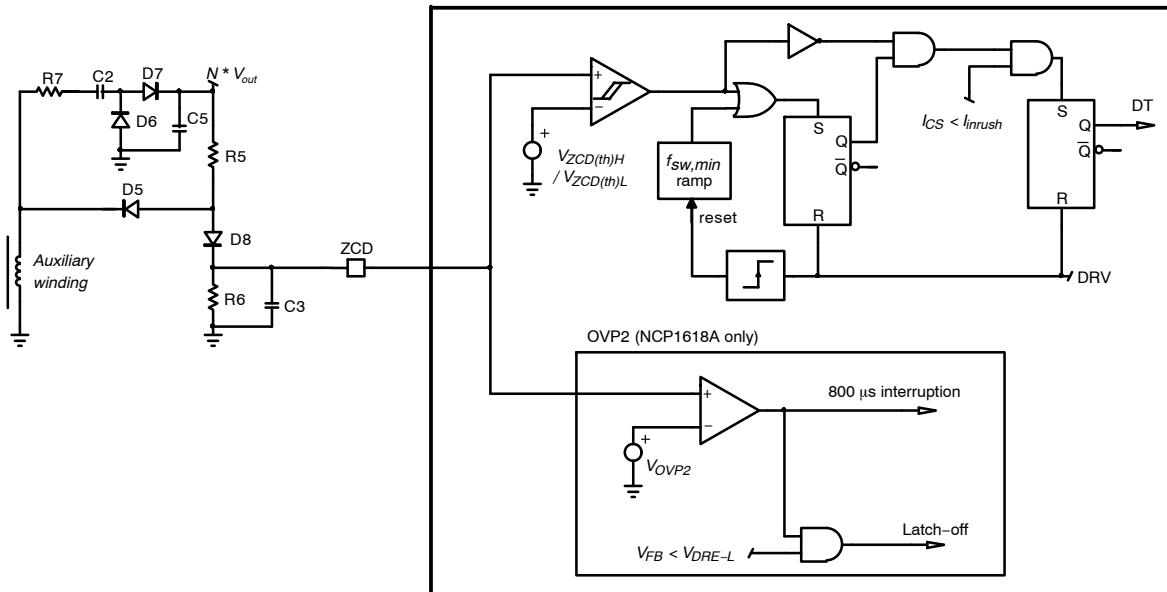

Figure 10. Zero Current Detection Block
- Application note AND90011 discusses recommended circuitries for an accurate ZCD and OVP2 detections. Figure 10 provides one of these circuitries. In this circuit, R_7 being small, capacitor C_2 is charged to
Figure 10 shows how the NCP1618 detects the valley. An internal comparator detects when ZCD pin voltage exceeds an upper threshold V_{ZCDH} (1 V typically). When this is the case, the inductor core is resetting and the ZCD latch is set. This latch will be reset when the next driver pulse occurs. Hence the output of the latch remains high during the whole off-time (demagnetization time + any possible dead time). The output of the comparator is also inverted to form
- The ZCD pin impedance (for instance R_3 of Figure 10), must be higher than 7.5 k Ω not to trigger the ZCD pin short–to–ground protection.
If no ZCD can be detected when the circuit operates in FCCrM mode, the circuit cannot use the valley detection to start a new current cycle. In this case, the next DRV pulse is forced by the DCM minimum frequency ramp ($f_{sw,min}$ ramp of Figure 10) which acts as a watchdog.
- If the pin is grounded, no falling edge of the auxiliary winding can be detected. The DRV remains off until the DCM minimum frequency ramp initiates a new cycle. Before the new pulse is generated, the circuit senses the pin impedance by sourcing 250 μ A. No DRV pulses are generated until the pin voltage exceeds V_{ZCDH} . Hence, the part is inhibited when the pin is grounded. Not to trigger this protection, the pin impedance (for instance R_3 of Figure 10, must be higher than 7.5 k Ω).